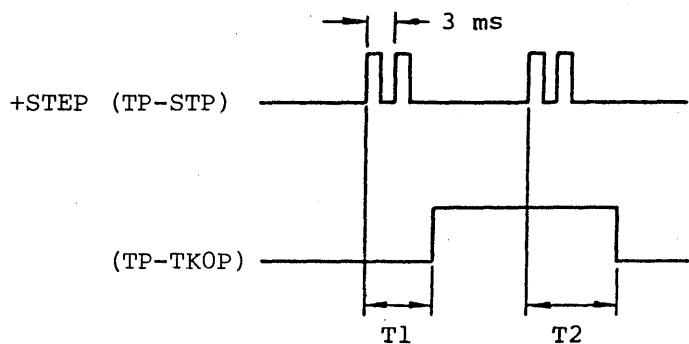

Fig. 11 Track 00 Sensor Adjustment
④ Repetitively seek Track 00-02.
⑤ Move the Track 00 sensor right or left (toward Track 00) or Track 76, adjust to the standard level, and tighten the setscrew (see Figs. 11 and 12).